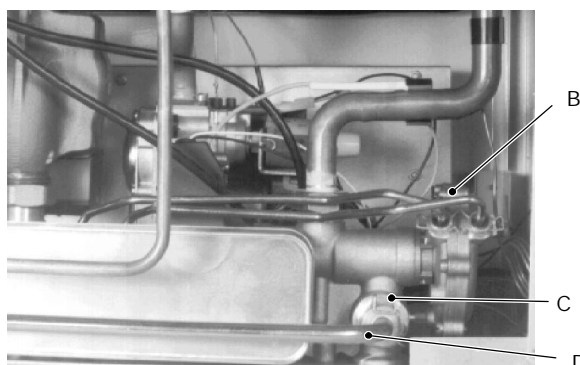

fig. 75 (rear view of the boiler)
- 3 remove the hydraulic actuator B (fig. 75) as explained in the section *Diverter valve and d.h.w. pressure switch* of this manual;